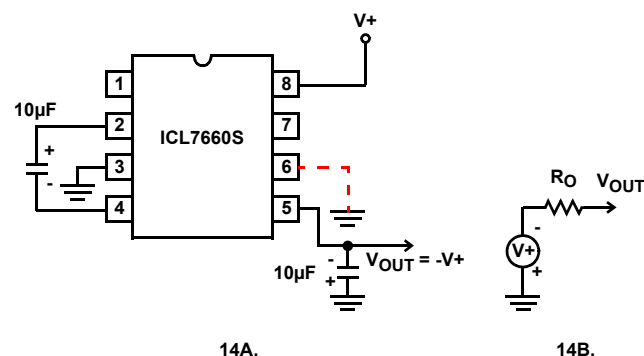
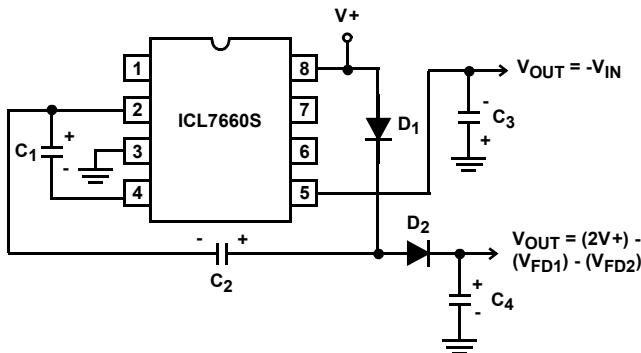
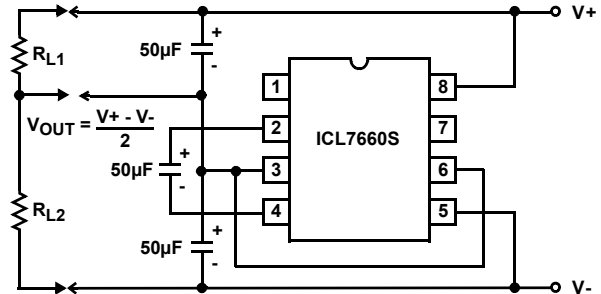

FIGURE 14. SIMPLE NEGATIVE CONVERTER AND ITS OUTPUT EQUIVALENT
FIGURE 18. COMBINED NEGATIVE VOLTAGE CONVERTER AND POSITIVE DOUBLER
FIGURE 19. SPLITTING A SUPPLY IN HALF
The majority of applications will undoubtedly utilize the ICL7660S for generation of negative supply voltages. Figure 14 shows typical connections to provide a negative supply where a positive supply of +1.5V to +12V is available. Keep in mind that pin 6 (LV) is tied to the supply negative (GND) for supply voltage below 3.5V.
The output characteristics of the circuit in Figure 14 can be approximated by an ideal voltage source in series with a resistance as shown in Figure 14B. The voltage source has a value of $-(V^+)$. The output impedance (R_O) is a function of the ON resistance of the internal MOS switches (shown in Figure 13), the switching frequency, the value of C_1 and C_2 , and the ESR (equivalent series resistance) of C_1 and C_2 . A good first order approximation for R_O is shown in Equation 2:
Figure 18 combines the functions shown in Figure 14 and Figure 17 to provide negative voltage conversion and positive voltage doubling simultaneously. This approach would be suitable, for example, for generating +9V and -5V from an existing +5V supply. In this instance, capacitors C_1 and C_3 perform the pump and reservoir functions, respectively, for negative voltage generation, while capacitors C_2 and C_4 are pump and reservoir, respectively, for the doubled positive voltage. There is a penalty in this configuration which combines both functions, however, in that the source impedances of the generated supplies will be somewhat higher, due to the finite impedance of the common charge pump driver at pin 2 of the device.
The bidirectional characteristics can also be used to split a high supply in half, as shown in Figure 19. The combined load will be evenly shared between the two sides, and a high value resistor to the LV pin ensures start-up. Because the switches share the load in parallel, the output impedance is much lower than in the standard circuits, and higher currents can be drawn from the device. By using this circuit, and then the circuit of Figure 14, +15V can be converted, via +7.5 and -7.5, to a nominal -15V, although with rather high series output resistance ($\sim 250\Omega$).